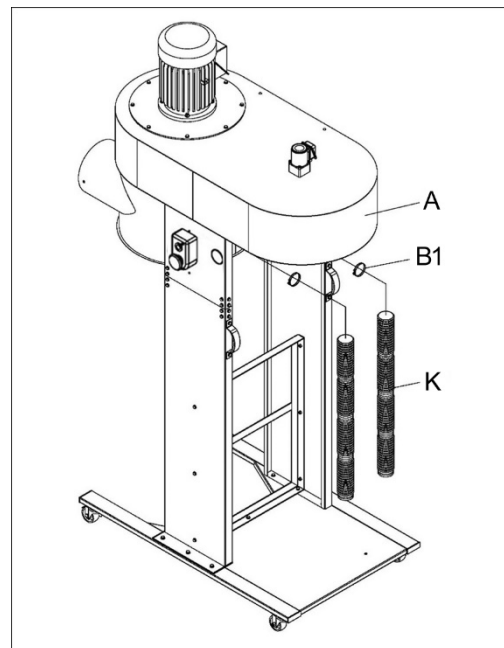

Figure 5-5
8. Place 2-inch hose (K) on main housing and tighten with hose clamp (B1). See Figure 5-5.